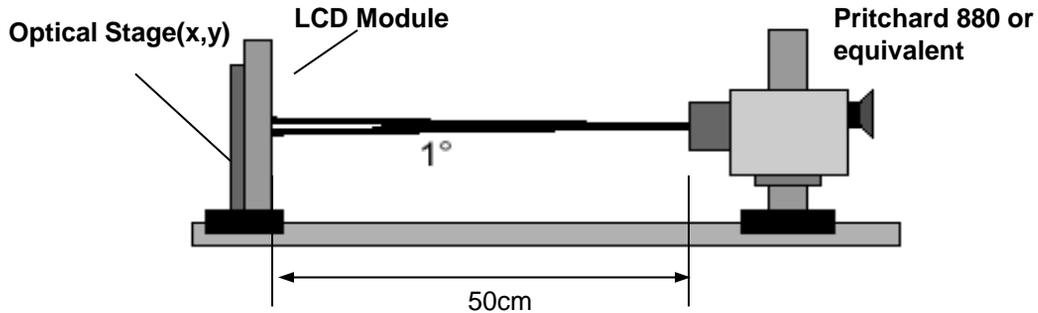

FIG. 1 Optical Characteristic Measurement Equipment and Method
FIG. 1 shows additional information concerning the measurement equipment and method.
2. Optical Characteristics is determined after the unit has been 'ON' and 1 Hour after lighting the backlight in a dark environment at  $25 \pm 2^\circ\text{C}$ . Surface luminance is the luminance value at center 1-point across the LCD surface 50cm from the surface with all pixels displaying white. For more information see the FIG.1